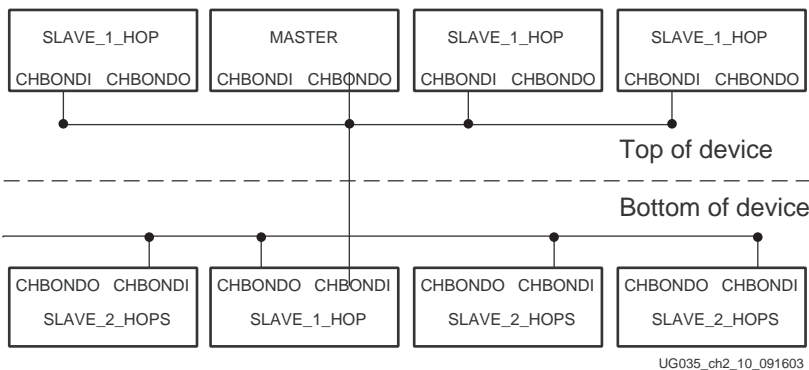
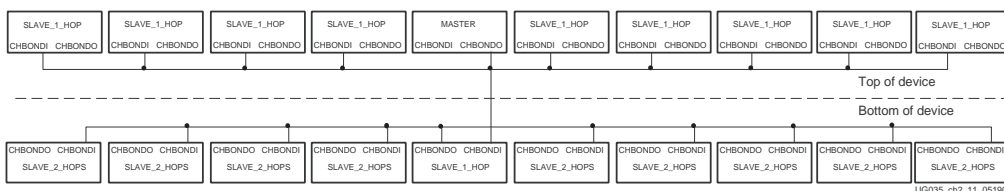

FIGURE 1-13: XC2VPX20 Device Implementation
FIGURE 1-14: XC2VPX70 Device Implementation
In Figure 1-13, the two Slave_1_hops are linked to the master in only one direction. To navigate to the other slave (a Slave_2_hops), both X and Y displacement is needed. This slave needs one level of daisy-chaining, which is the basis of the Slave_2_hops setting.
Figure 1-13 and Figure 1-14 show the channel bonding mode and linking for an XC2VPX20 and XC2VPX70 devices, which (optionally) contain more transceivers (20) per chip. To ensure the timing is met on the link between the CHBONDO and CHBONDI ports, a constraint must be added to check the time delay.